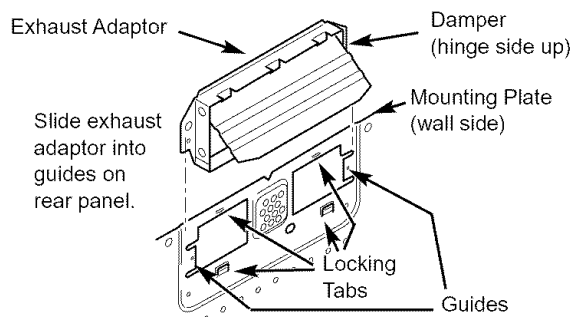

**Figure 28**
1. Using the Wall-template. This template will give the location and size of the box cutout for the rear wall duct as described in step 5 item 1 (page 15)
2. Using a pencil, put dots through slots "F" and "G", and through holes "H" and "I". Remove the mounting plate and draw lines extending through the points. This will give the location and size of the box cutout for the rear wall duct. See **Figure 28**.